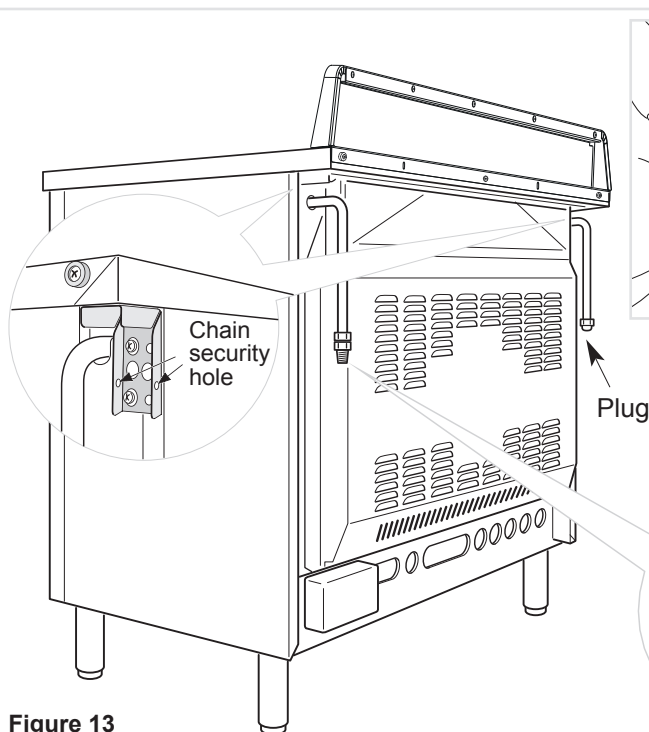

Figure 13
- The connection must be made at the rear of appliance (left or right); the pipe does not cross the cooker (fig. 13).